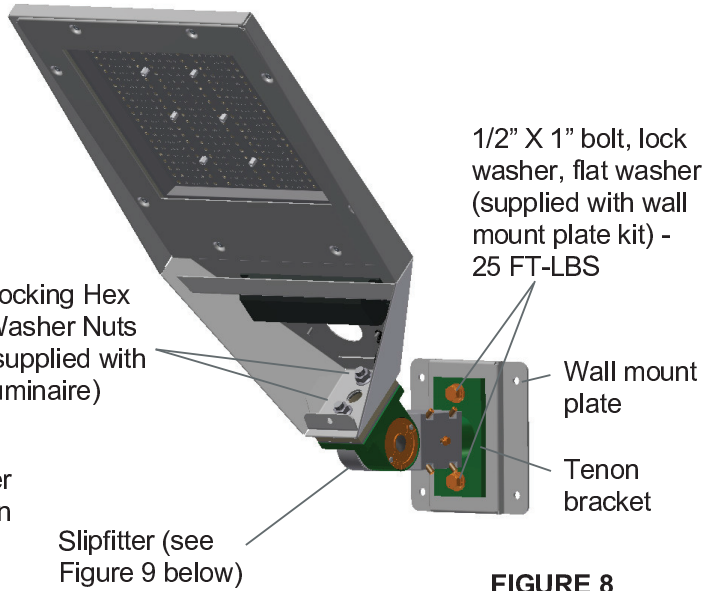

FIGURE 8
F. USING OPTIONAL WALL MOUNT PLATE WITH ADJUSTABLE SLIPFITTER - FIGURES 8 & 9
- 6. Secure lower half onto tenon bracket using (4) set screws provided in slipfitter. Be sure slipfitter is correctly aligned for proper luminaire aiming. Tighten all (4) to **5 FT-LBS**.